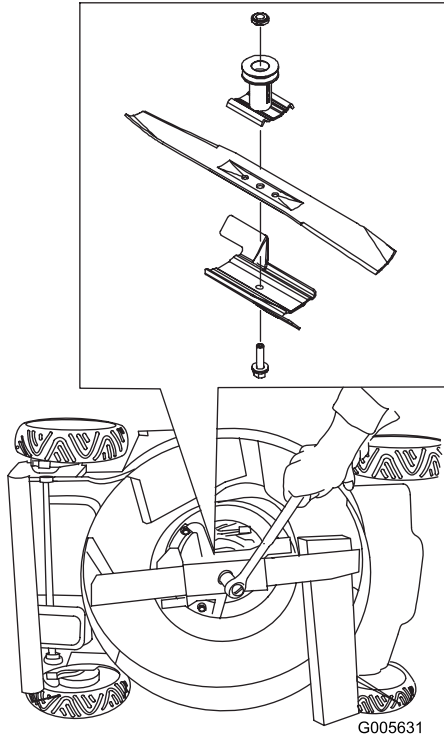

Figure 35
3. Use a block of wood to hold the blade steady (Figure 35).
5. Install the new blade and all mounting hardware (Figure 35).